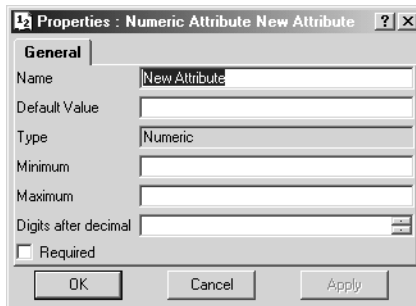
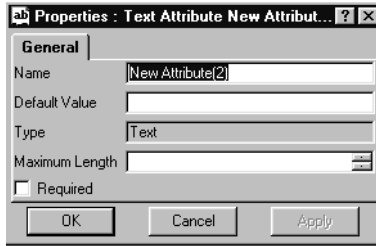
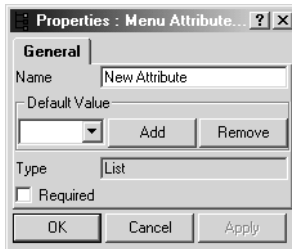

Figure 4-58. Edit Code Numeric Attributes
Figure 4-59. Edit Code Text Attribute
Figure 4-60. Edit Code Menu Attribute
3. On the Attributes dialog box, enter the applicable parameters for the code's attribute (Figure 4-58, Figure 4-59 on page 4-40, and Figure 4-60 on page 4-40). Click **OK**.